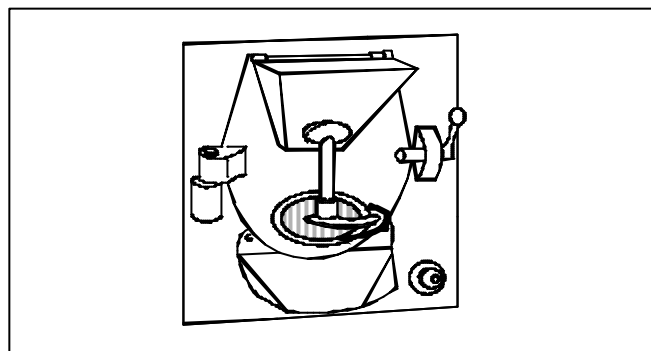

Figure 23
- Lift the handle and the ice cream gate (ref. Fig. 23).